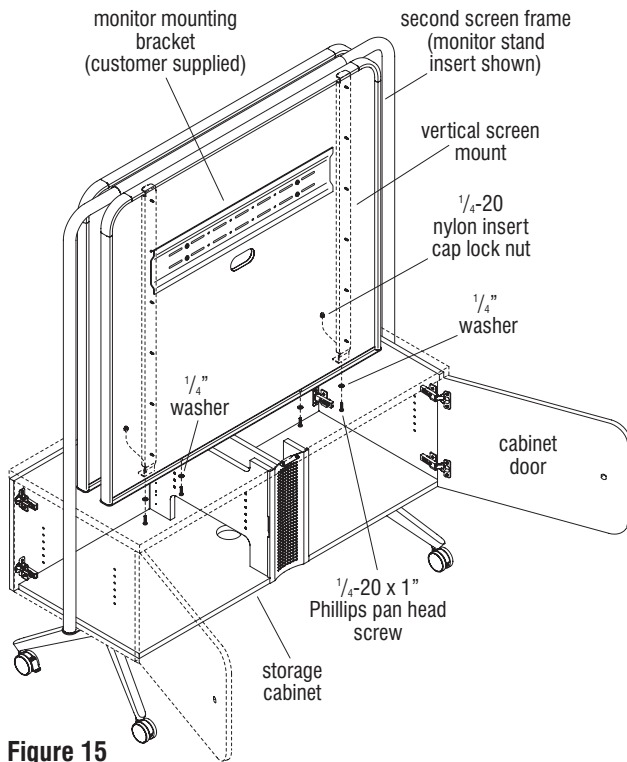

Figure 15
washer into the aligned holes from inside the cabinet, then secure in place by twisting a 1/4-20 nylon insert cap lock nut on the end of the screw. Hold the screw and tighten the nut. Repeat this step to secure the second vertical screen mount to the cabinet top (Figure 15 & Detail L).
- With the vertical screen mounts secured to the storage cabinet in the step above, two additional inner mounting holes in the cabinet top will align with mounting holes in the underside of the screen frame. Place a 1/4" washer onto each of the two 1/4-20 x 1" Phillips pan head screws, then from inside the cabinet, insert each screw up the mounting hole and secure them into the underside of the screen frame to add additional support (Figure 15 & Detail L).